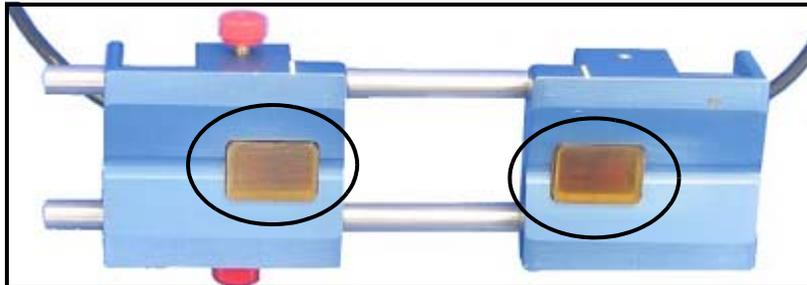

Figure 6: The Transducer Faces
1. Apply the supplied couplant to the transducer faces, as shown in Figure 6 below.